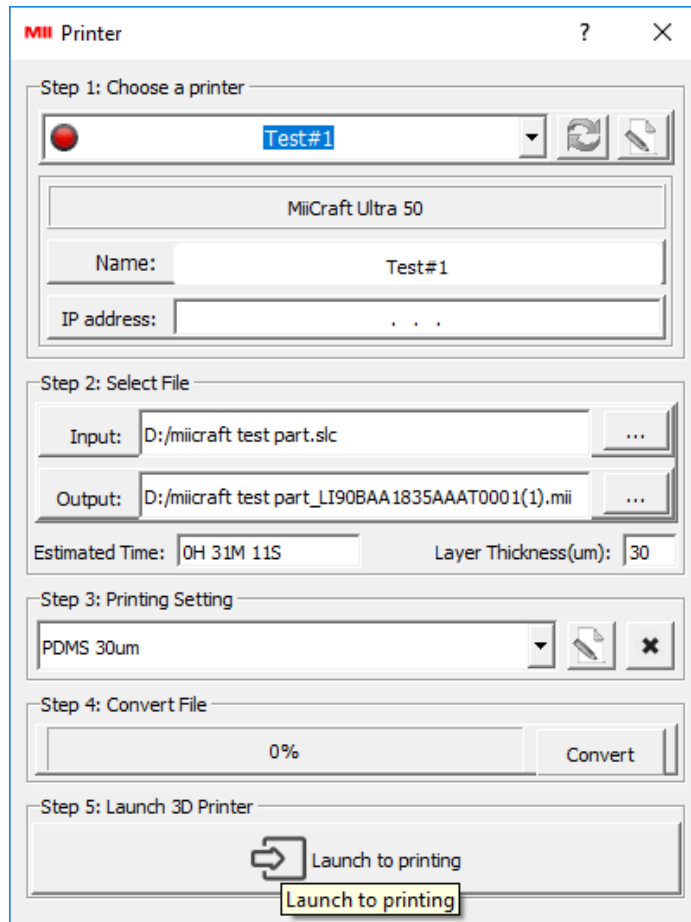

Figure 3 - MiiPrinter window opens automatically after you save the .stl file
11. Mii Printer window will open automatically (see figure 3 below)